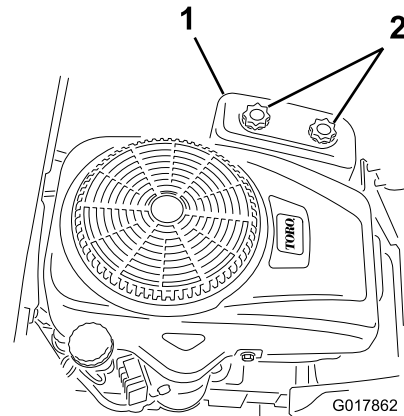

Figure 28
- Remove the air-cleaner cover by unscrewing the 2 knobs (Figure 28).